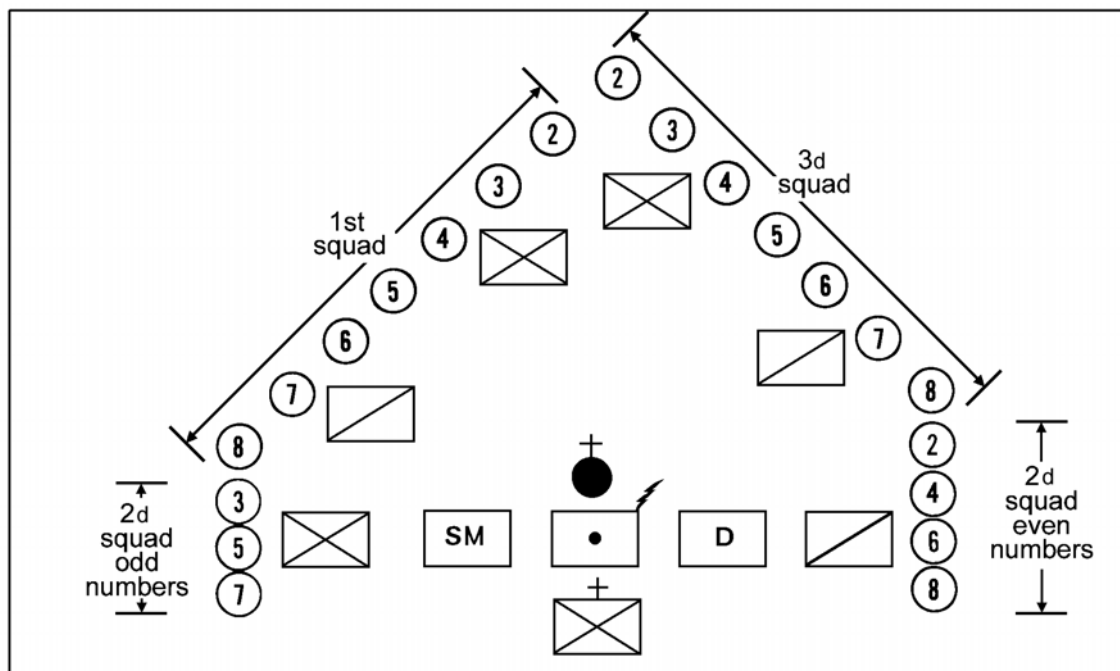

Figure 191-379-5400-12
11. Form the platoon in a platoon wedge with one squad in lateral support (Figure 191-379-5400-12).